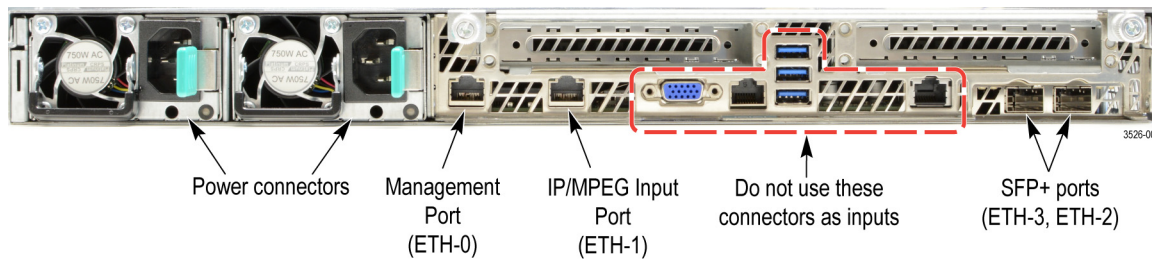

Figure 3: Rear panel connectors – Premium chassis
2. If your instrument has the optional Ethernet-based transport stream input capability (GigE), connect one end of an Ethernet cable to the **IP/MPEG Input Port** on the rear of the instrument. (See Figure 3 on page 11.) Connect the other end of the cable to your video transport stream source. (See Figure 4 on page 12.)